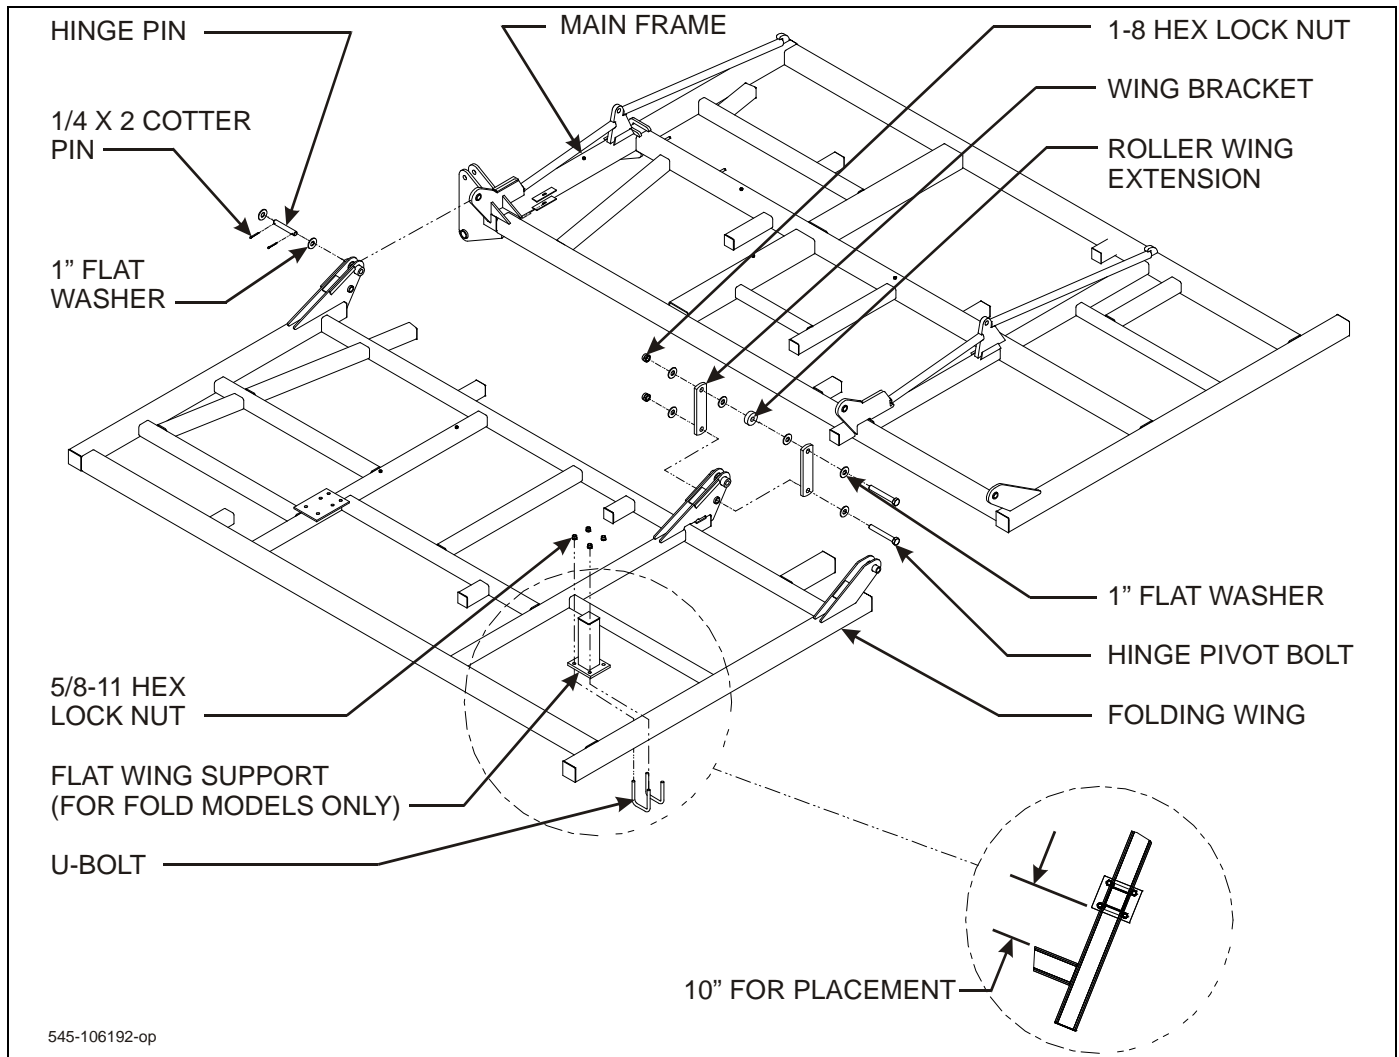

Figure 3-2: Frame Assembly - 15' Fold Model
1. Connect main frame and folding wing together using hinge pin, 1" flat washers, and 1/4 x 2 cotter pins (See Figure 3-2.)